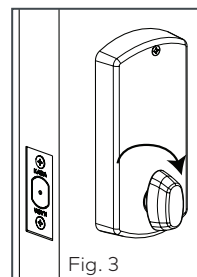

Fig. 3
8. Rotate inside thumbturn to retract the deadbolt. See Fig. 3 & Fig. 4.